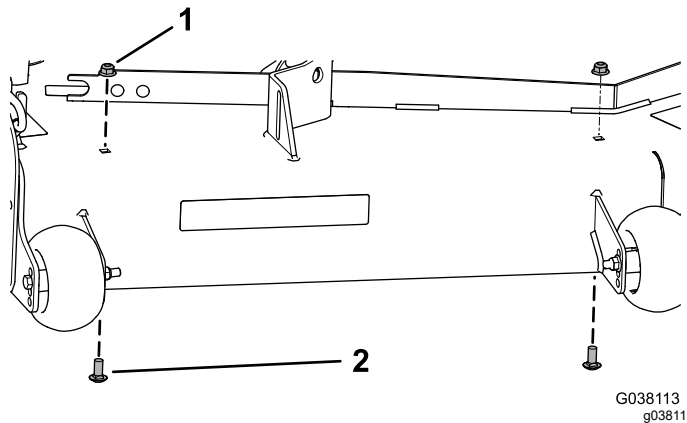

Figure 27
1. Remove the 2 existing flange nuts (3/8 inch) and 2 carriage bolts (3/8 x 7/8 inch) from the mower deck (Figure 27).